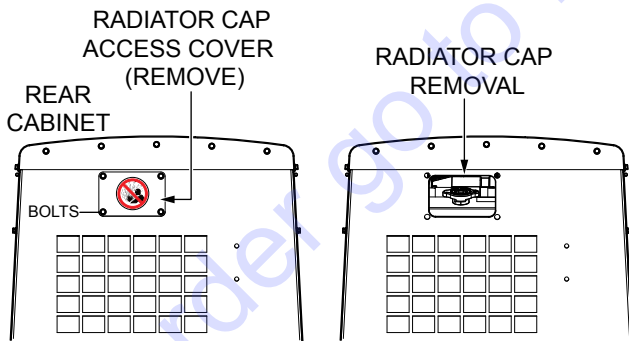

Figure 33. Radiator Cap Removal
1. Remove the four bolts that secure the radiator cap access cover (Figure 33) to the rear cabinet. Remove access cover and gasket.